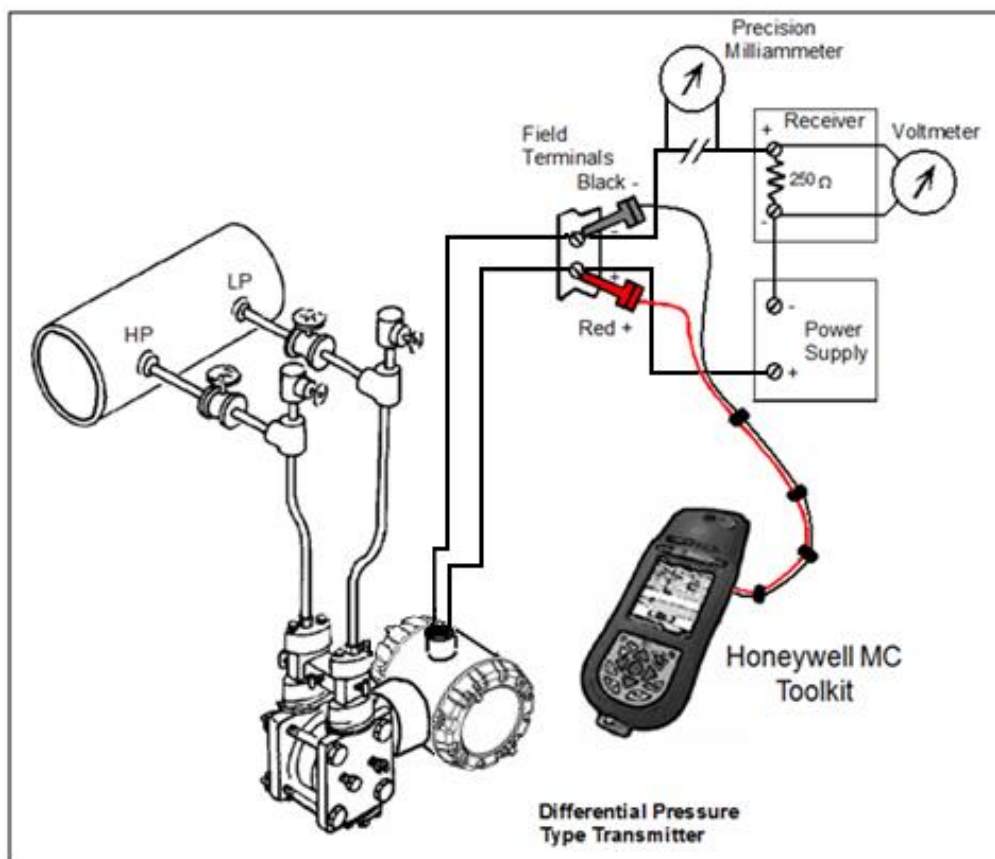

Figure 16 – Current Loop Test Connections
1. Refer to Figure 16 for test connections. Verify the integrity of electrical components in the output current loop.